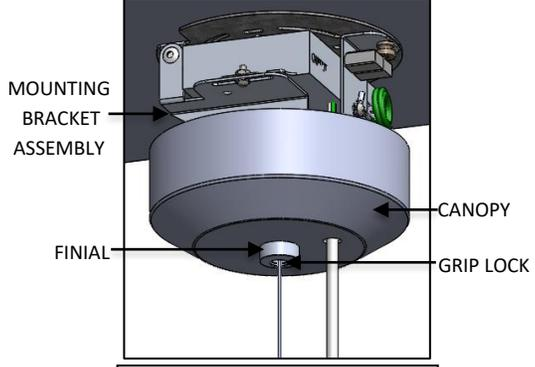

FIG. 18 – FINIAL INSTALLATION
- Raise CANOPY and secure to ceiling by threading the FINIAL to the NIPPLE (available in MOUNTING BRACKET ASSEMBLY) as shown below in FIG. 18.